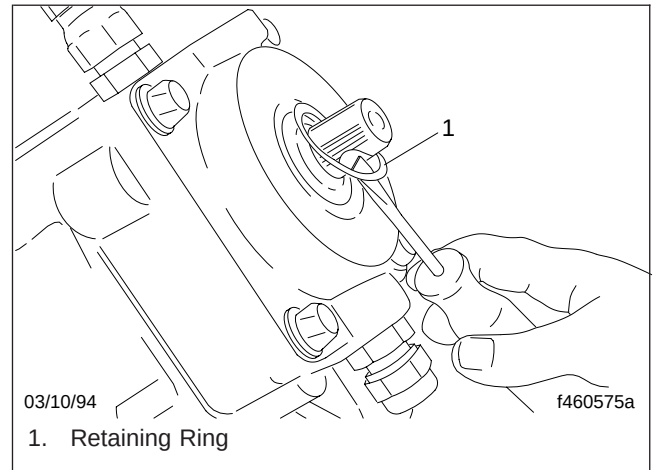

Fig. 2, Retaining Ring Removal
6. Using a screwdriver inserted into the notch formed in the end of the retaining ring, remove the retaining ring. See Fig. 2. Be careful not to scratch the bore with the screwdriver.